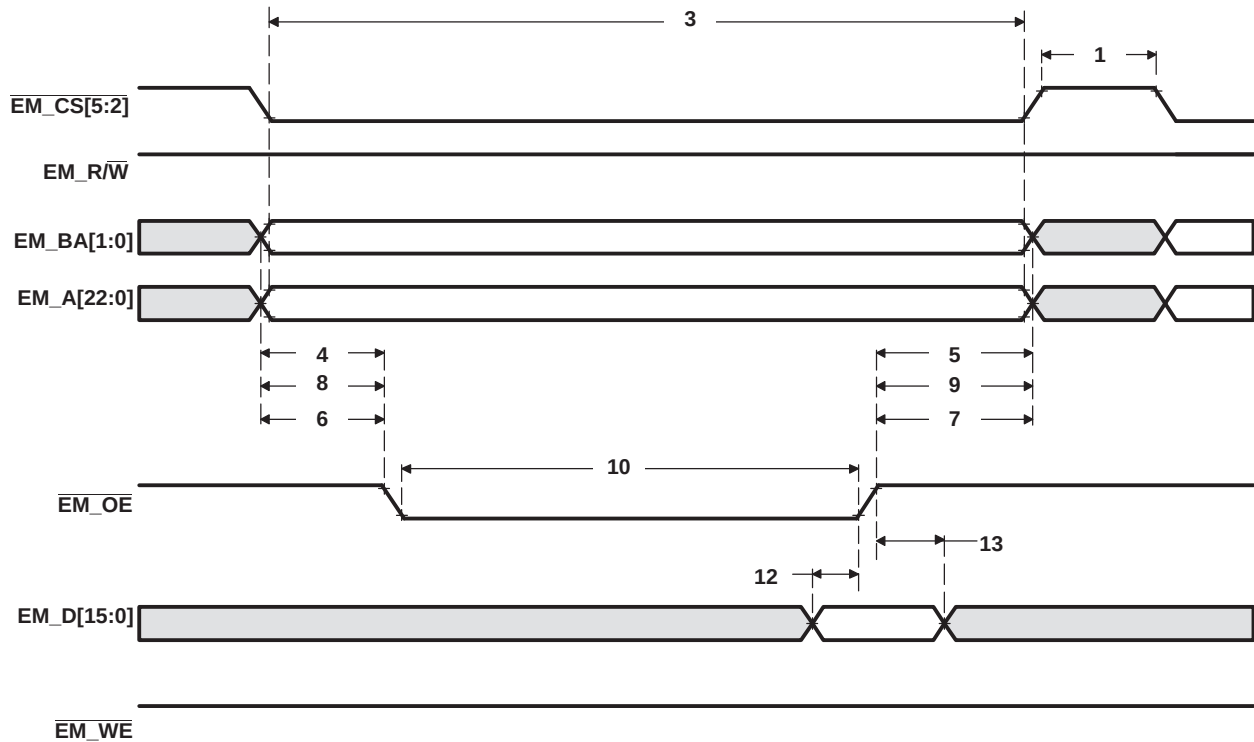
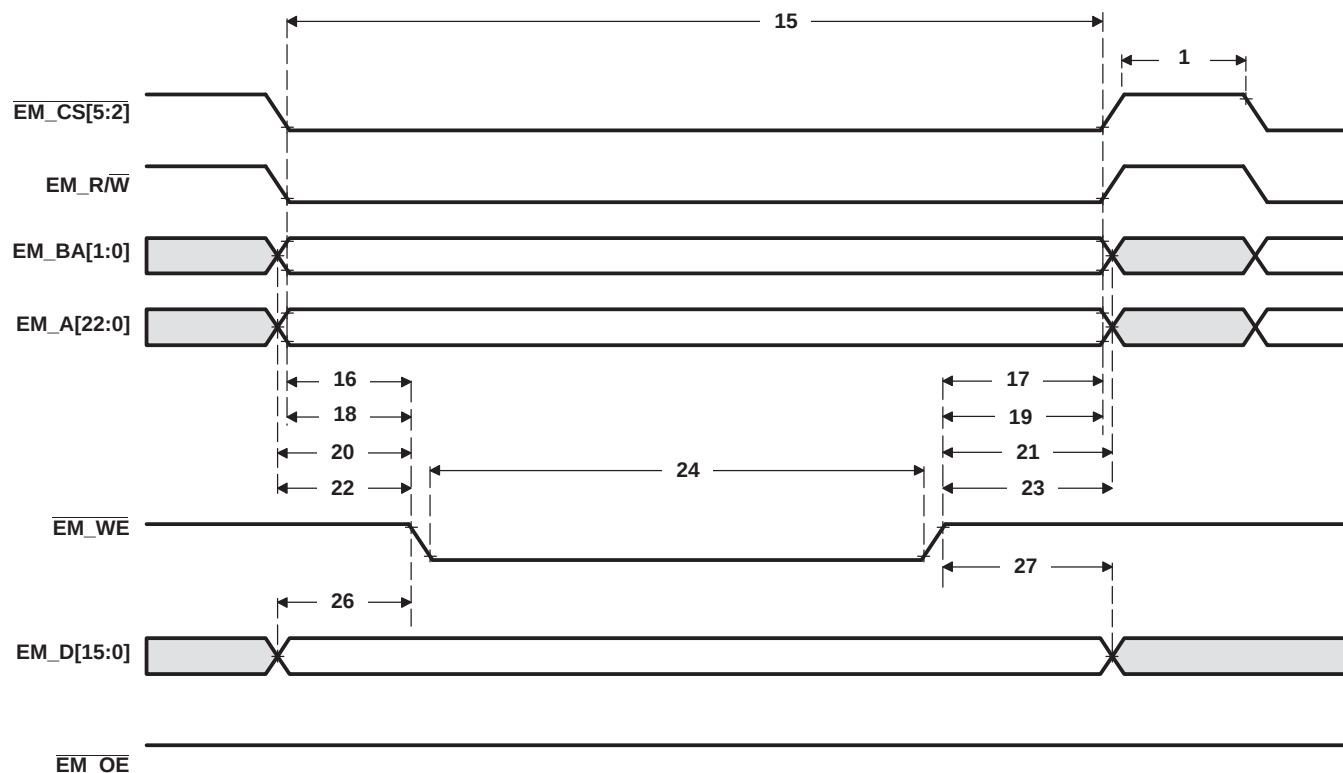

**Figure 7-22. Asynchronous Memory Read Timing for EMIF**
Figure 7-23. Asynchronous Memory Write Timing for EMIF
(see Figure 7-22 and Figure 7-23)
**Table 7-30. Switching Characteristics Over Recommended Operating Conditions for Asynchronous Memory Cycles for EMIFA Module(1) (2) (see Figure 7-22 and Figure 7-23)**
- (1) RS = Read setup, RST = Read Strobe, RH = Read Hold, WS = Write Setup, WST = Write Strobe, WH = Write Hold, TA = Turn Around, EW = Extend Wait mode, SS = Select Strobe mode. These parameters are programmed via the Asynchronous n Configuration and the Asynchronous Wait Cycle Configuration registers and support the following range of values: TA[0–3], RS[0–15], RST[0–63], RH[0–7], WS[0–15], WST[0–63], WH[0–7], EW[0–1], and MEWC[0–255]. For more information, see the *TMS320DM646x DMSoC Asynchronous External Memory Interface (EMIF) User's Guide* (literature number SPRUEQ7).
- (2) E = SYSCLK3 period in ns for EMIFA. For example, when running the DSP CPU at 594 MHz, use E = 6.734 ns.
**Table 7-30. Switching Characteristics Over Recommended Operating Conditions for Asynchronous Memory Cycles for EMIFA Module(1) (2) (see Figure 7-22 and Figure 7-23) (continued)**